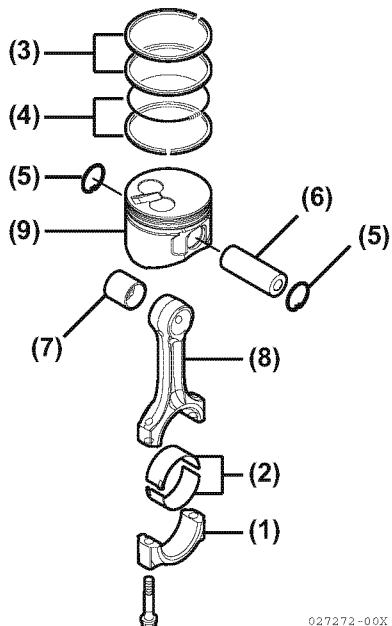

Figure 6-82
2. If removed, install a new wrist pin bushing (**Figure 6-82, (7)**) using a press and the appropriate service tool. Be sure to align the oil holes.
3. Reinstall one circlip (**Figure 6-82, (5)**) into the piston. Ensure the circlip is securely seated in the groove.